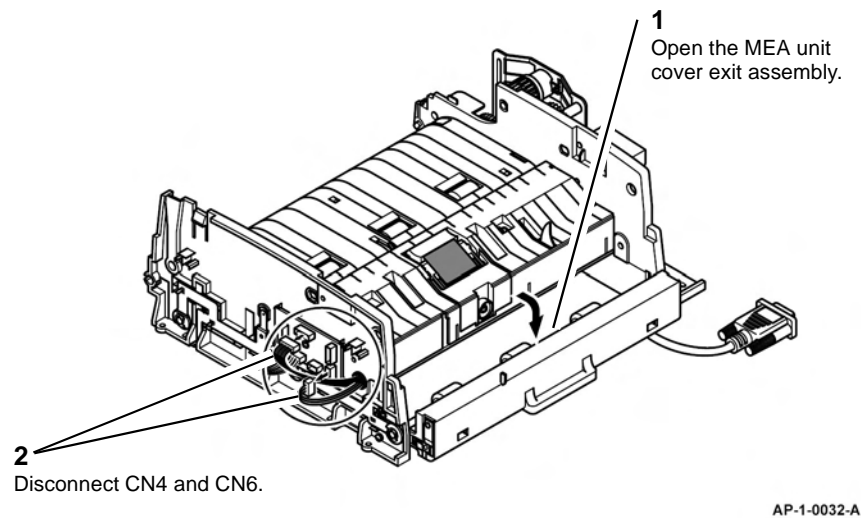

Figure 14 Preparation
15. Prepare to remove the MEA unit guide pickup assembly, Figure 14.